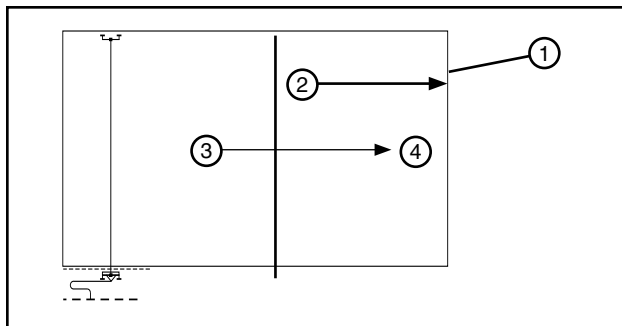

Figure 34-1 1. Field
1. The percentage timer is set at the desired application rate and the system is started at one end of the field and run wet (irrigating) to the other end of the field. See figure 34-1.
2. The system is stopped until the field has dried sufficiently before running the system back to the original end of the field. See figure 34-1.